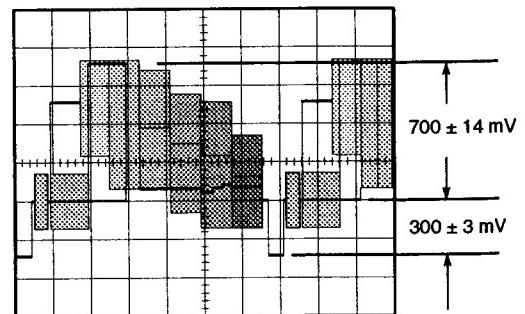

Fig. 5-1-11
- Adjust VR14 so that the Burst Level becomes 300 ± 7 mVp-p as shown in Fig. 5-1-11.